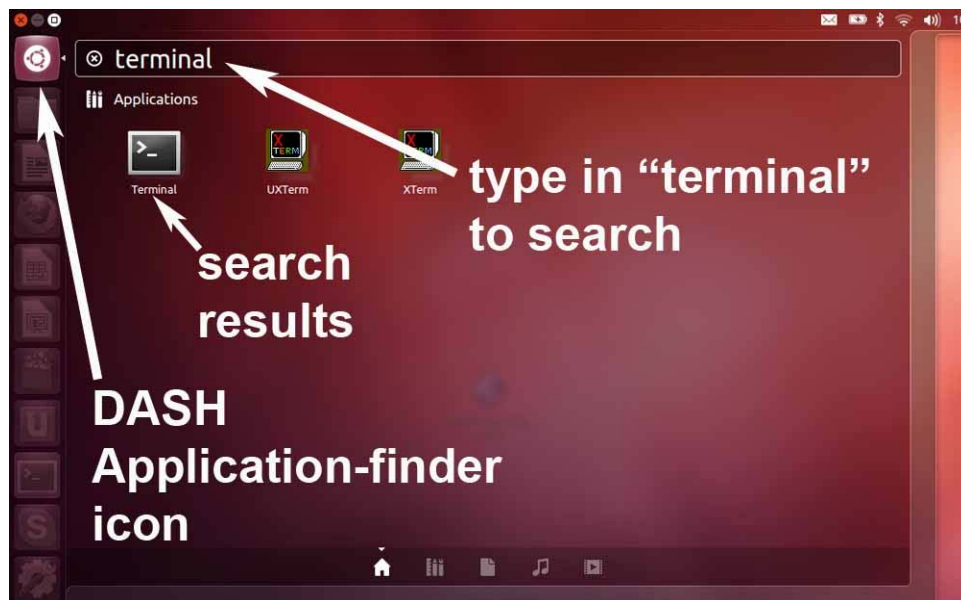

Figure 8 – Open window of the DASH application-finder tool
- After you open DASH, type in “terminal”. The DASH application-finder will display the TERMINAL application in the search results. See **Figure 8**.